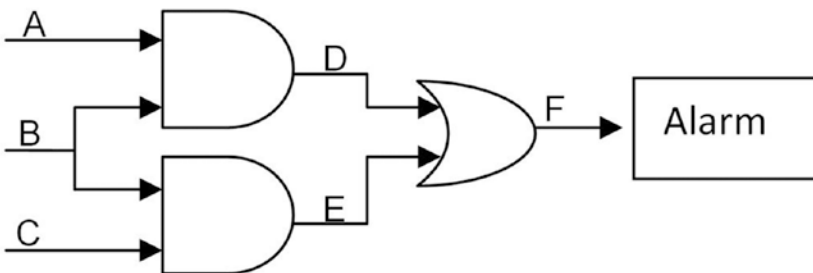

Figure 6-4. Logic diagram for exercise 1
1. Implement a home security alarm system. A and C are motion sensors. B is a switch that turns on the alarm. The alarm system will trigger when the alarm is turned on (setting B = high) and either motion sensor A or C is set to high. This will set F to high, which will actually trigger the security alarm. Figure 6-4 shows the block diagram.